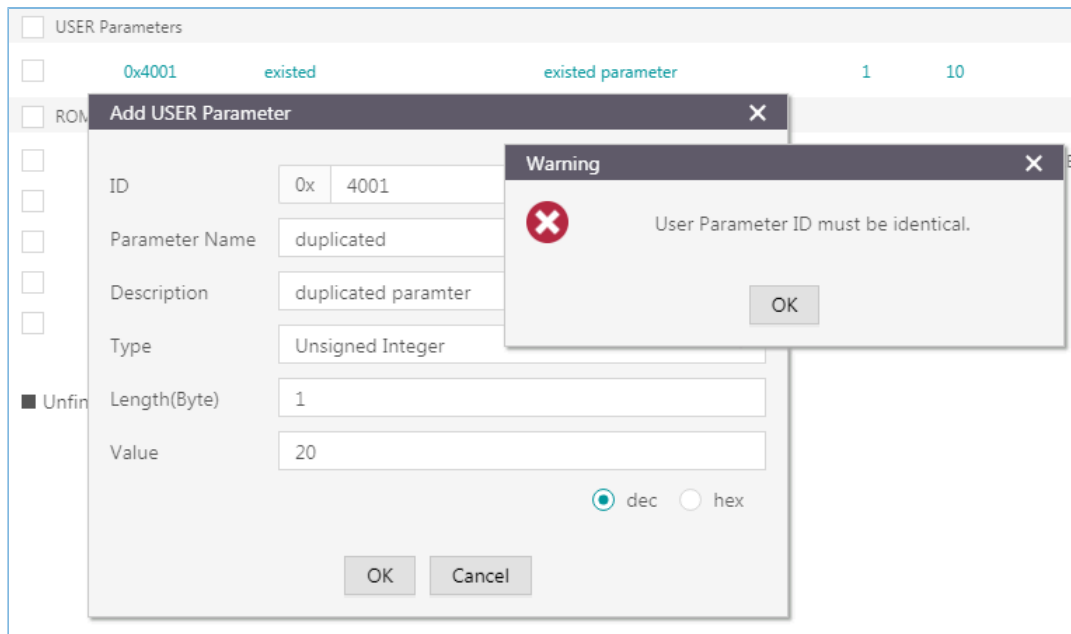

Figure 3-40 Failure to add a user parameter due to an identical parameter ID
- You cannot input a parameter ID that is identical with those listed in the **Parameters** pane. Otherwise, a warning dialog box pops up, as shown in Figure 3-40.